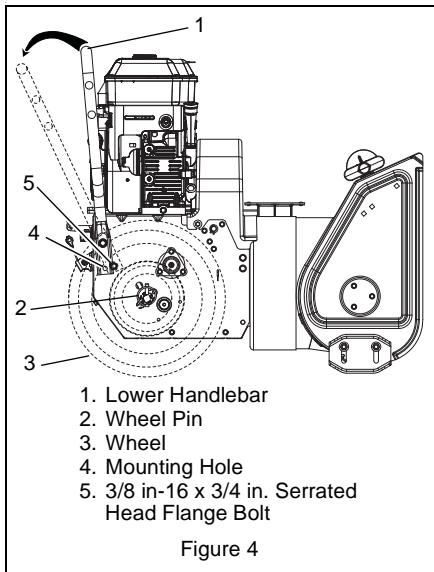

Figure 4
(Figure 4)
1. Remove wheel pins from each side of the unit and slide wheels away from frame (Figure 4). Do not remove wheels completely.